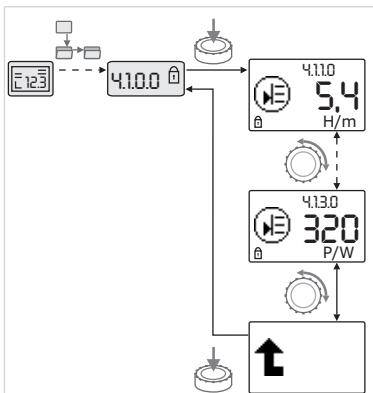

Fig. 33: Calling up information
- Turn the white button to access the “Information” menu elements in the current sub-menu (see Fig. 33). For an explanation of the settings represented by the symbols, see the table in Section 8.7 “Menu elements reference” on page 75.